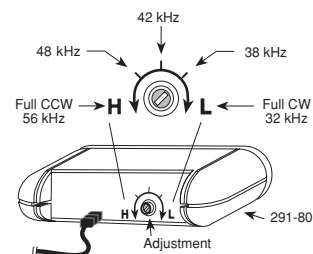

Fig. 2 IR Carrier Frequency Adjustment
The 291-80 is factory set to an IR carrier repeat frequency of 38 kHz. This will be correct for the majority of installations. However, some manufacturer's components that you wish to control may use different carrier frequencies (such as the RCA DSS receivers that use 56 kHz). If such carrier frequencies fall within the range of 32 kHz to 56 kHz, you can adjust the 291-80 to match them for best range performance. The adjustment can be made through a small opening on the rear panel. See Fig. 2.
3. Using a small blade type screwdriver (3/32" blade width max.), rotate the adjustment shaft until the slot lines up with the desired frequency marking. Refer to Fig. 2.
**NOTE:** The frequency markings shown in Fig. 2 are approximate only. You may need to "fine tune" the adjustment for best performance.
- If you have products in the same IR system that have different IR carrier frequencies, you will have to adjust the 291-80 to a midway position. For example, some products may operate at 38 kHz and others at 56 kHz. In this case, set the adjustment to approximately 47 kHz, a midway position just to the right of the 48 kHz marking in Fig. 2.